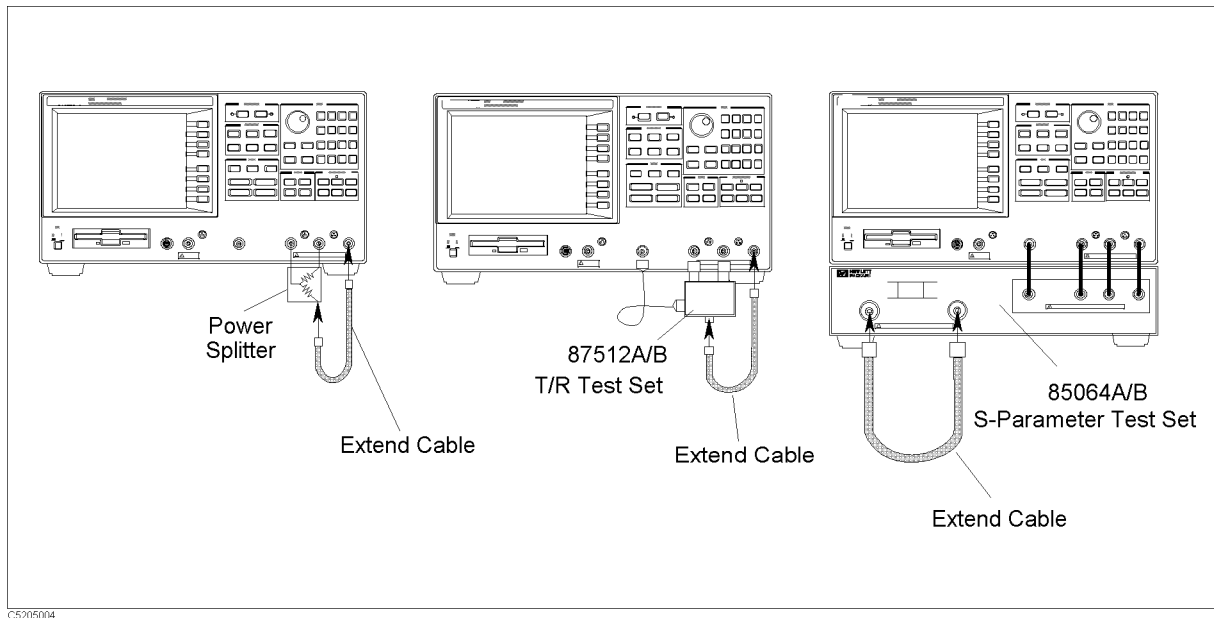

Figure 8-17. Cable Measurement Configuration (Transmission)
1. Connect the cable as shown in Figure 8-17.